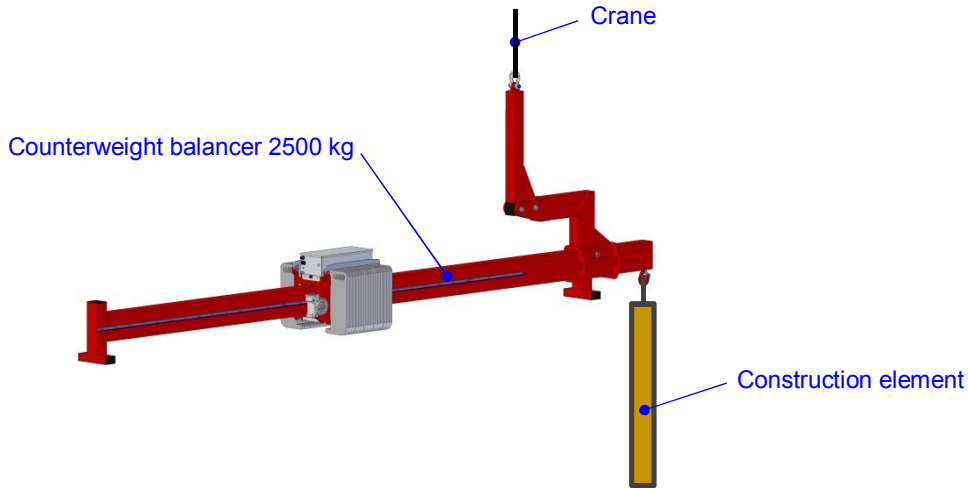

Fig. 2: Attachment Counterweight balancer 2500 kg
The Counterweight balancer 2500 kg is designed as an attachment and is mounted to a crane according to fig. 2.
- ⇒ The counterweight balancer has to be prepared according to section 3.3 of this operating manual and subsequently has to be coupled to the crane (see fig. 2). The coupling has to be performed with the crane hook at standstill and the counterweight balancer taken out of operation.